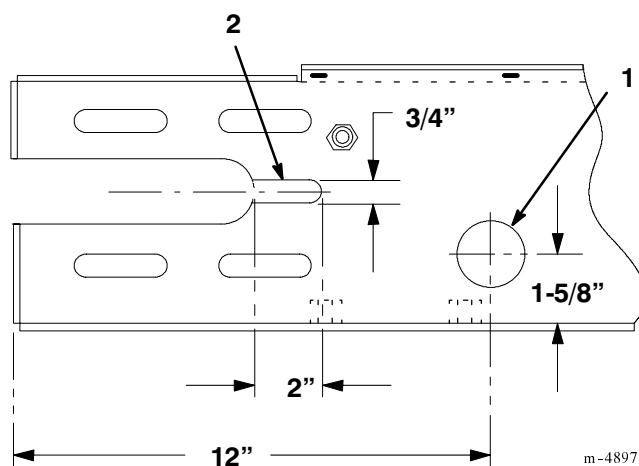

**Figure 1**
2. Back the nuts off on the belt tension rod on each side of the unit until you can push the front roller back enough to loosen the conveyor belt (Fig. 1). Align the pin with the access hole in the frame.